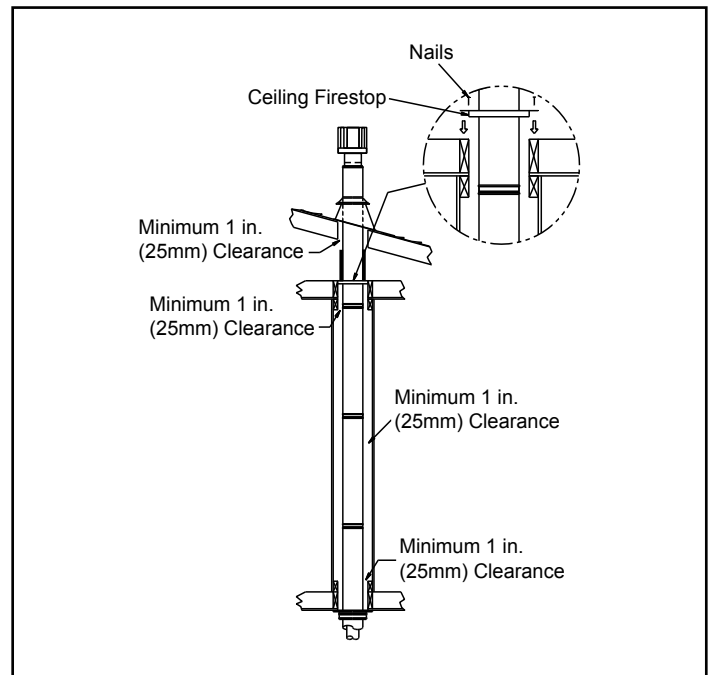

Figure 7.13
- Any occupied areas above the first floor, including closets and storage spaces, which the vertical vent passes through must be enclosed. See Figure 7.13 for required clearances between vent and enclosure.